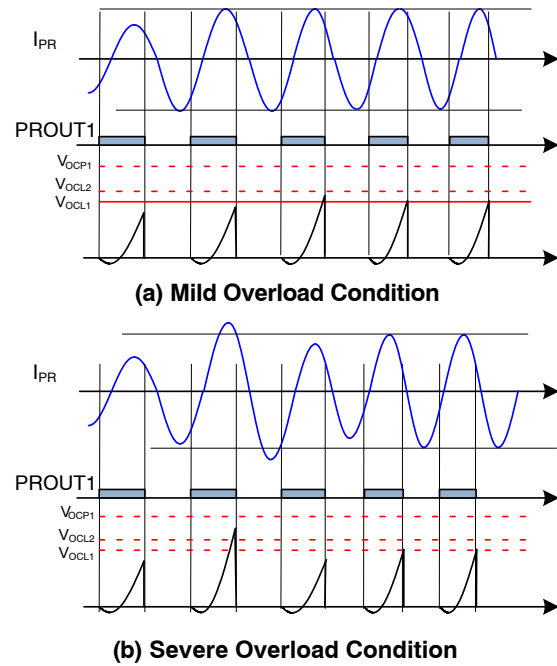

Figure 64. Current Limit of the ICS Pin by Frequency Shift (Compensation Cutback)
3. Over-Current Limit: The  $V_{ICS}$  peak value is also used for input current limit. As can be seen in Figure 64, there exist two different current limits (fast and slow). When the  $V_{ICS}$  peak value increases above the slow current limit level ( $V_{OCL1}$ ) due to a mild overload condition, the internal feedback compensation voltage is slowly reduced to limit the input power. This continues until the  $V_{ICS}$  peak value drops below  $V_{OCL1}$ . During a more severe over load condition, the  $V_{ICS}$  peak value crosses the fast current limit threshold ( $V_{OCL2}$ ) and the internal feedback compensation voltage is quickly reduced to limit the input power as shown in Figure 64 (b). This continues until the  $V_{ICS}$  peak value drops below  $V_{OCL2}$ . The current limit threshold on the  $V_{ICS}$  peak value also changes as the output voltage sensing signal ( $V_{FB}$ ) decreases such that output current is limited during overload condition as shown in Figure 65. In addition, these limit thresholds change to higher values ( $V_{OCL1.BR}$  and  $V_{OCL2.BR}$ ) when the converter operates in deep below resonance operation for a longer holdup time (refer to holdup time boost function)